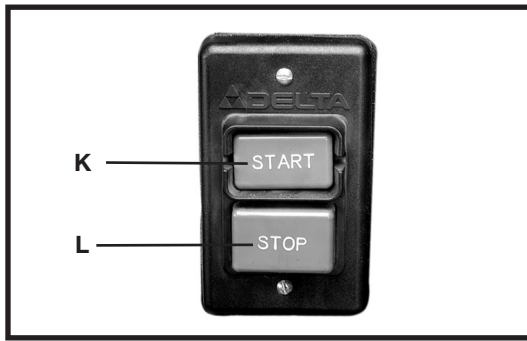

Fig. 17
To start the machine, press the “START” button (K) Fig. 17. To stop the tool, press the “STOP” button (L) Fig. 17.